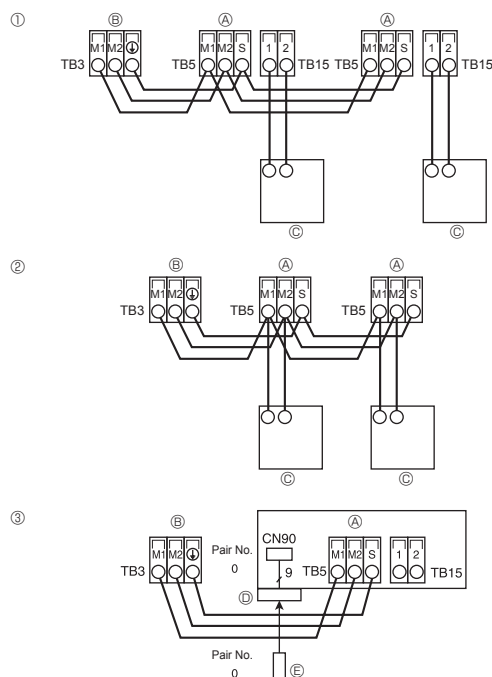

Fig. 5-5
5.4. Connecting remote controller, indoor and outdoor transmission cables (Fig. 5-5)